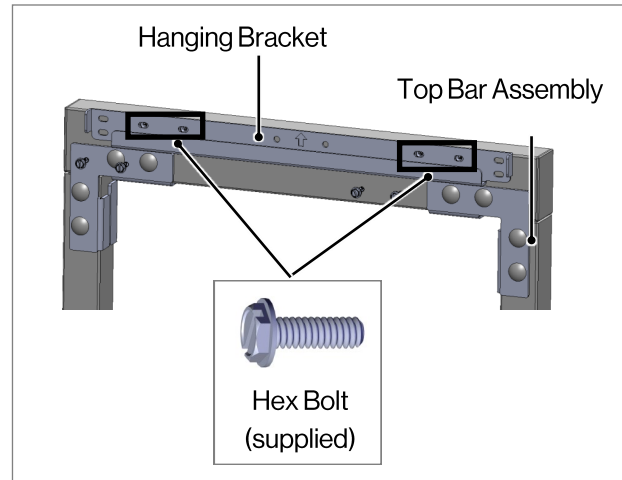

Fig. 10
Using four (4) Hex Bolts (supplied), attach the hanging bracket (supplied with the boiler) to the through-holes on the left and right sides of the Top Bar Assembly (Fig 10).